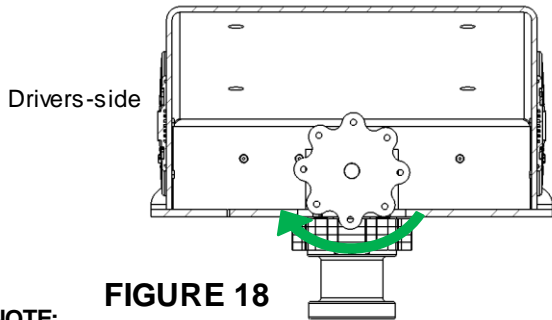

FIGURE 18
7. Tighten wedge fitment by scrolling the handle underneath the Sidewinder towards drivers-side (Figure 18). Hand tighten only.